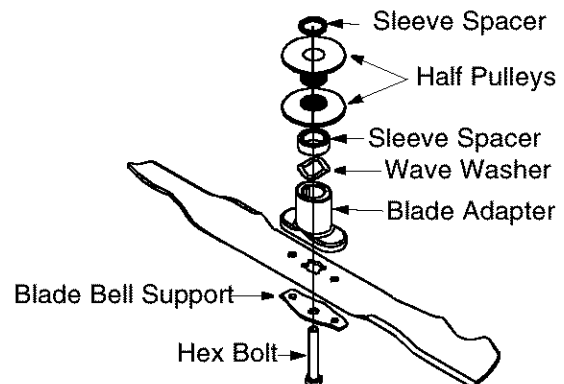

Figure 14
- Remove the bolt and the bell support that hold the blade-pulley assembly to the engine crankshaft. See Figure 14. Remove the assembly from the crankshaft.
**NOTE:** Make sure the parts above the blade adapter are assembled as shown in Figure 14 ..
- Remove the two shoulder screws which secure the front drive cover to the mower deck. See Figure 14.
- Remove the idler and accompanying hardware from the idler bracket using 7/16" wrench and socket. See Figure 14.
- Remove the belt from the transmission pulley as shown in Figure 14.